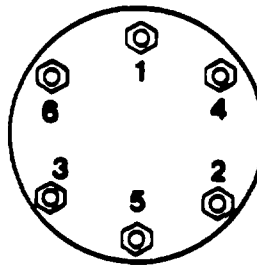

Figure 3-12. Cartridge Filter End Plate (Nut Tightening Sequence)
- (4) Slide eyenuts (1) with washers (2) into cover brackets (3) and tighten in the order shown (fig. 3-12).
- (5) Attach quick disconnect to vent (6).
- (6) Operate ROWPU in normal manner (para 2-25) and check for leaks.